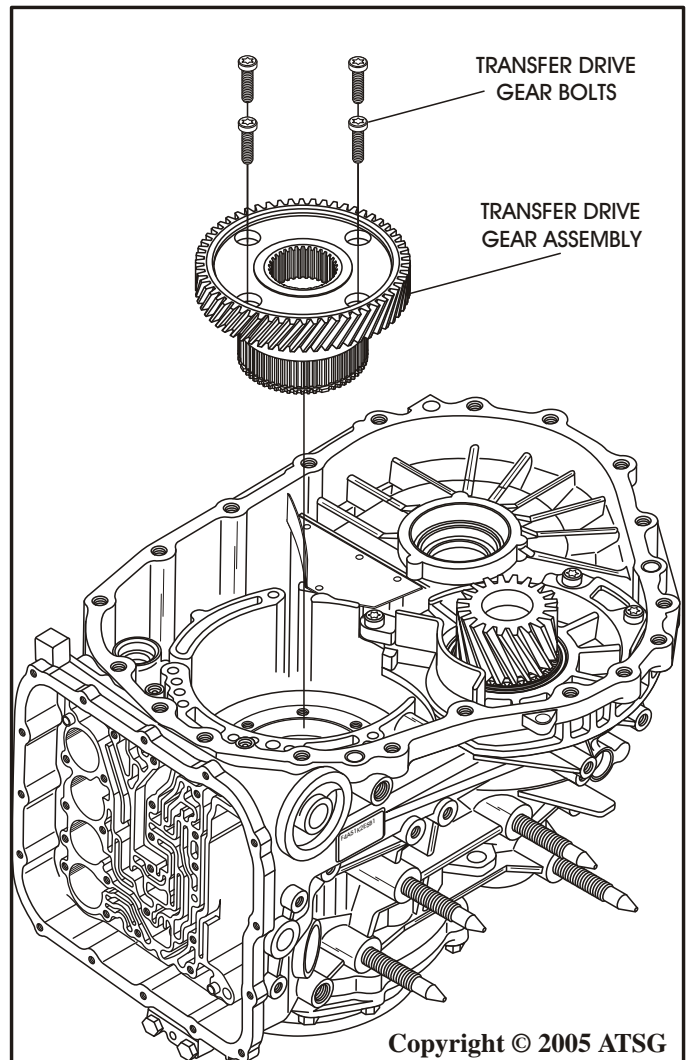

Figure 160
17. Install transfer drive gear assembly, as shown in Figure 160, by aligning the reference marks.